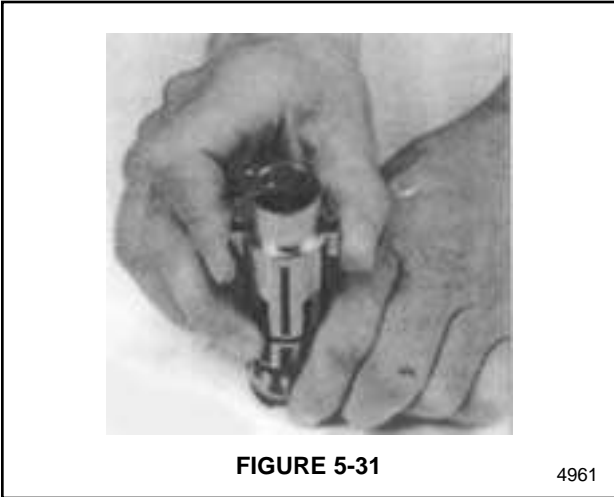

FIGURE 5-31
2. Position the springs so that the amount of spring protruding out of the spool is equal on both sides. See Figure 5-31.